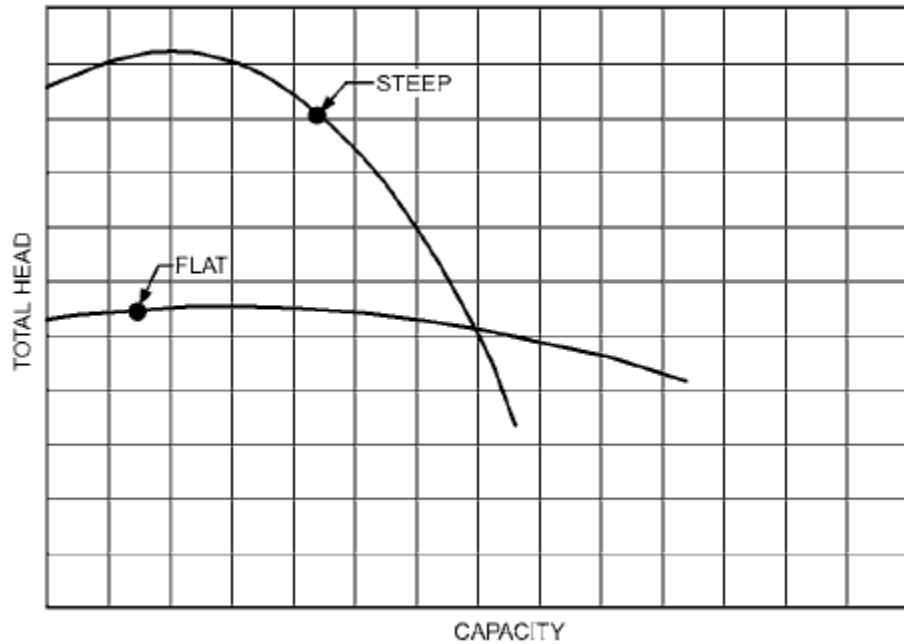

Figure 21 Flat Versus Steep Performance Curves
- The pump characteristic curve may be further described as flat or steep (Figure 21). Sometimes these curves are described as a normal rising curve (flat), a drooping curve (steep), or a steeply rising curve.